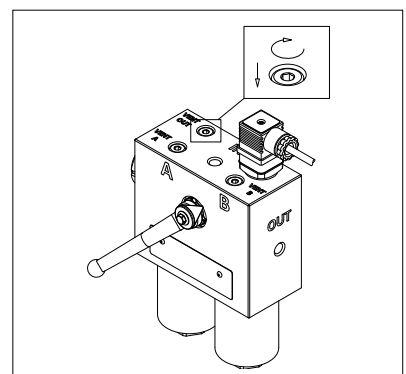

fig. 19
- (Fig. 19) Bleed the air from the system through the “Vent OUT”, until the operating fluid starts oozing. Immediately screw the breather plug in